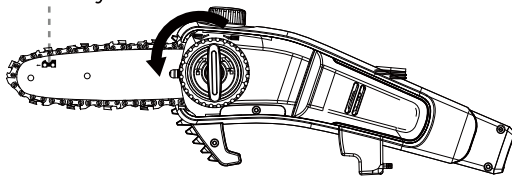

Fig. 3
1. Place the pole saw on a suitable flat surface with the chain cover facing upwards. Remove the chain cover by turning the chain cover locking knob in a counterclockwise direction. (Fig. 3)